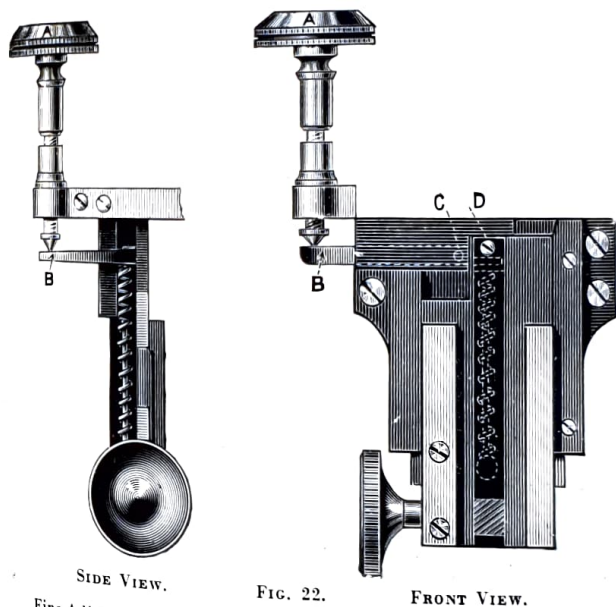

FIG. 22.
The Substage is of specially substantial construction; it has rectangular screw adjustments to centre, very fine rackwork to focus, and is arranged to swing out of the optical axis. A **Fine Adjustment** is included with the Grand Model instrument. It may be either of two patterns: (1) to work from above the Stage surface by the method shown in Fig. 22 and in position on the Instrument on page 87, or (2) by means of a vertical lever worked by a milled head, mounted parallel with and just above the rackwork milled head of the Substage, as shown (F) on the Royal Instrument on p. 79. The former method of mounting entails a slight extra charge